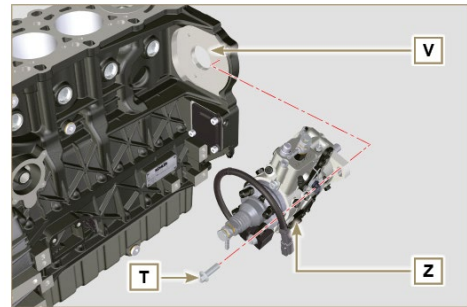

Fig 9.34
- Always change screws **T** with new ones or alternatively apply **Loctite 270** (Fig. 9.34) to the threads.
7. Fix pump **Z** into housing **V** by means of screws **T** (Fig. 9.34 - tightening torque at **25 Nm**).